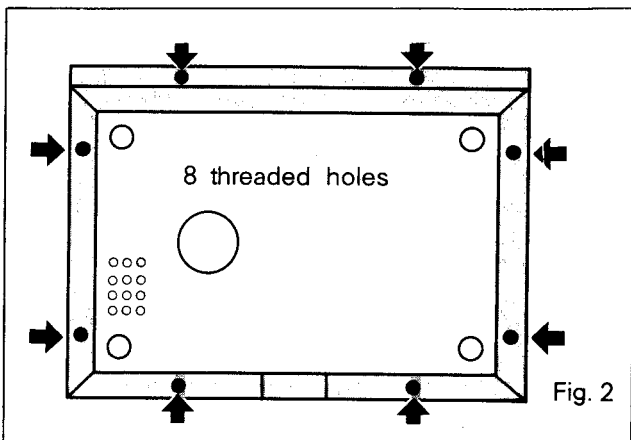

Fig. 2
- (1) Remove with a Phillips-head screwdriver the eight screws which hold the bottom base. (Fig. 2).